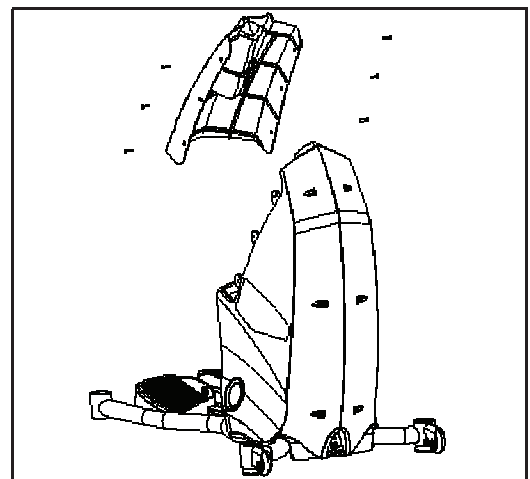

Figure 7
- 5-1** Remove the 6 Phillips screws from the Mid-cover, and place to the side (see Figure 7).